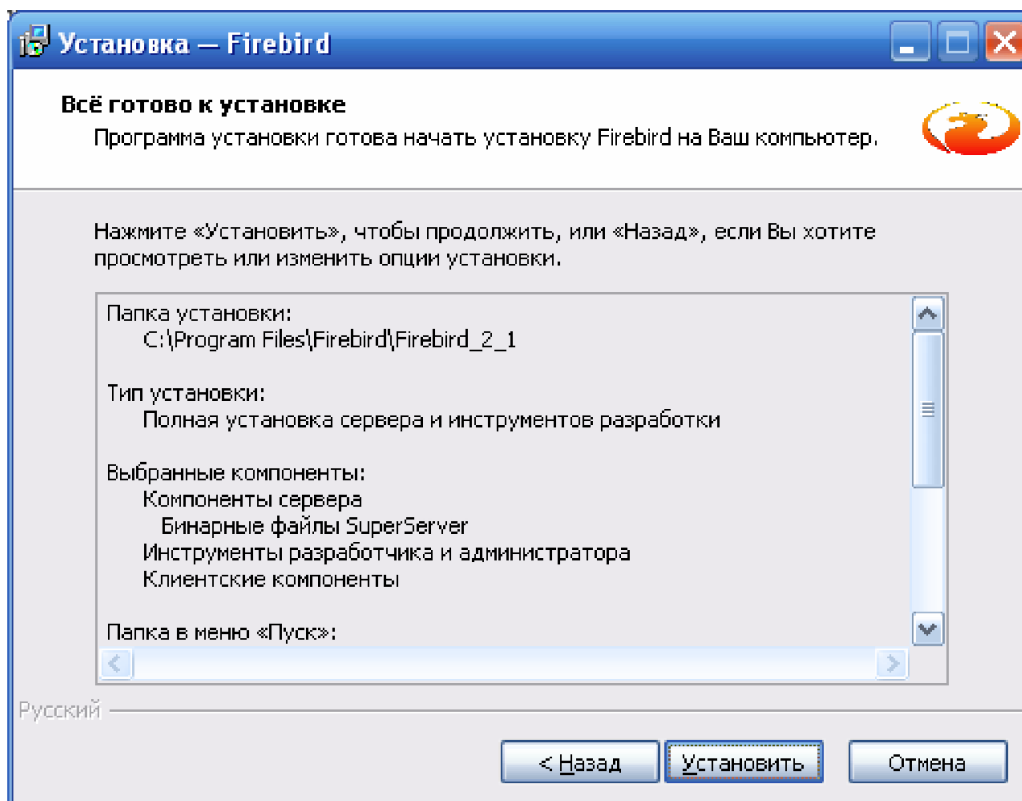

Figure 13. Installing Firebird - step 8.
Step 8 (Figure 13) is a summary page showing all selected installation options. If a mistake was made somewhere in the selection, you can go back to the relevant page and correct it. If everything is correct, then click the “Install” button to start the installation process.